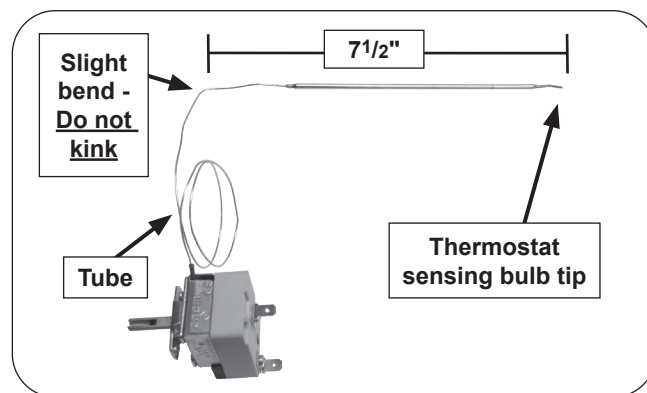

Fig. 2-1 Measure and bend tube
8. Measure 7 1/2" from the new thermostat sensing bulb tip to the tube and gently create a slight bend (approximately 90°) in the tube (see Fig. 2-1).